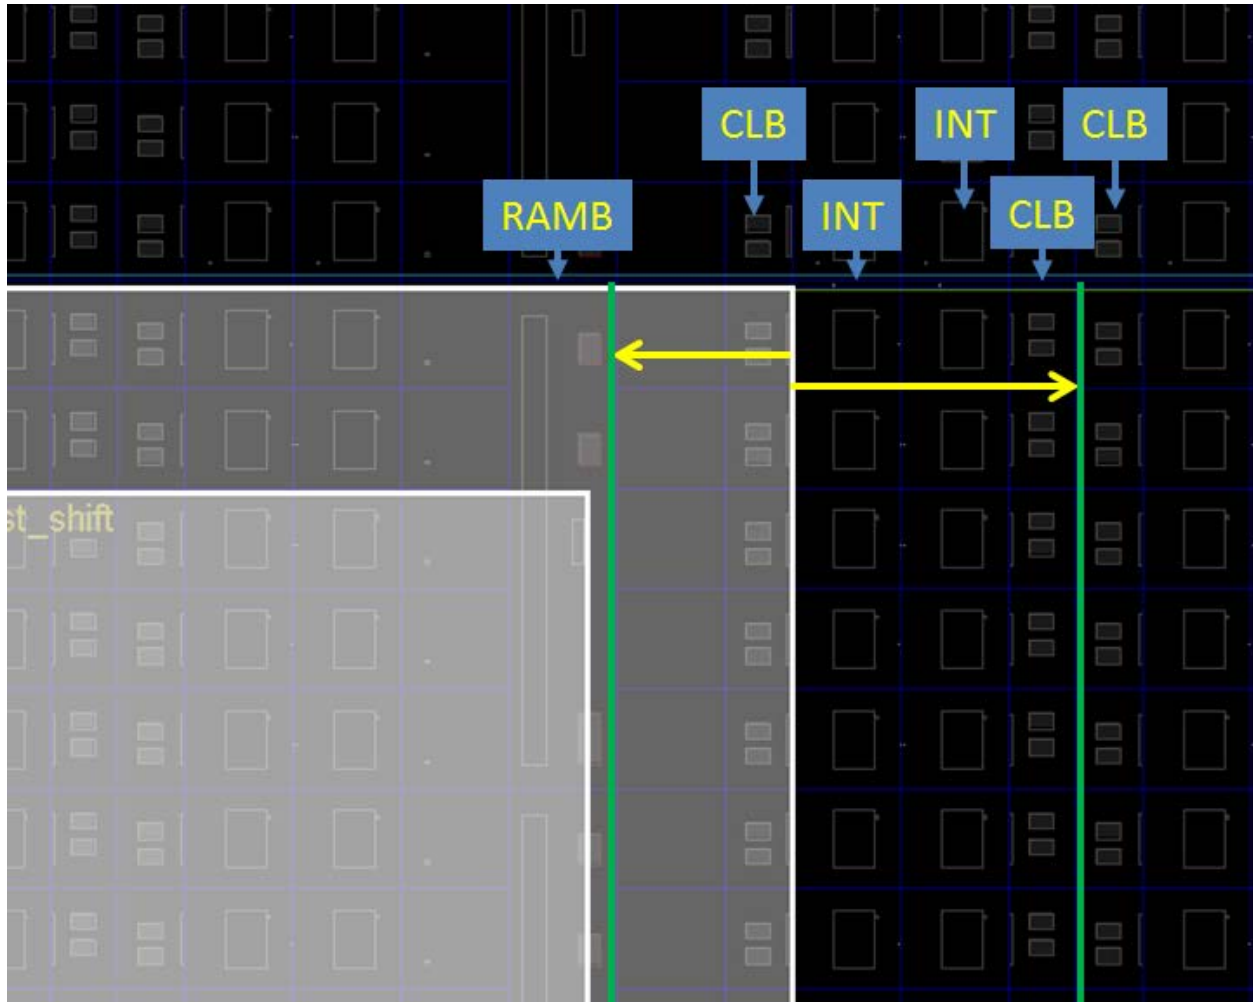

Figure 5: Adjusting the Edges of a Reconfigurable Pblock
6. To manually avoid this DRC warning, zoom into the upper or lower corner on the reported edge of inst_shift (or inst_count, if inst_shift did not report an issue) to see where the violation has occurred. Move this edge left or right one column, as shown by the yellow arrows in Figure 5, so it lands between two resource types (CLB-CLB or CLB-RAMB, for example) instead landing between CLB-INT or BRAM-INT.